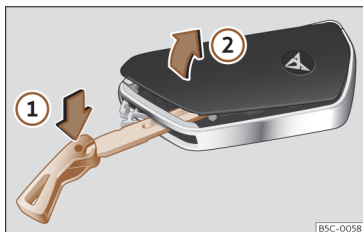

Fig. 72 Vehicle key: open the battery compartment cover.
- Insert the key blade into the slot >>> **Fig. 72**, press it in the direction of arrow ① and detach the cover by levering it ②.